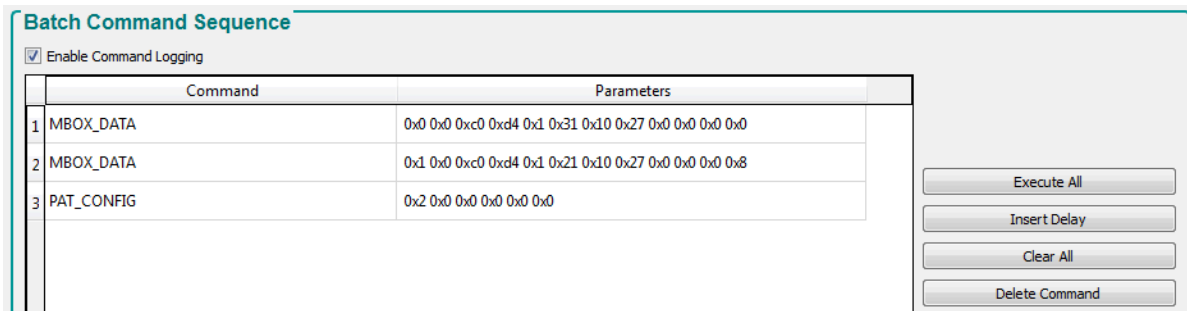
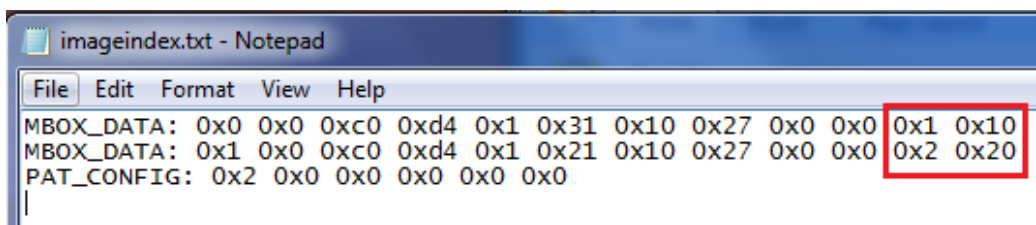

Figure 6-24. Pattern LUT Definition and Configuration
Figure 6-25. Updating the Index and Bit Position
10. Figure 6-24 shows the *Pattern LUT Definition and Configuration* of the pattern sequence.
16. Use Notepad or a similar editor to open and edit the batch file saved in step 11. The file is typically stored in the folder named *C:\Texas Instruments-DLP\DLPC900REF-SW-5.2.0\DLPC900REF-GUI\Images and Batch files*, then *LCR[DMD]_Images* folder depending on which DLPC900 DMD EVM is being used. Change the image index and bit position as seen in Figure 6-25. See the DLPC900 Programmer's Guide (DLPU018) for details of the Pattern LUT Definition and Configuration commands.
17. Figure 6-25 shows the image index and the bit position of the images for the two patterns, where the values have been changed compared to the values in Figure 6-24. Click the *Save* to save the new batch file.